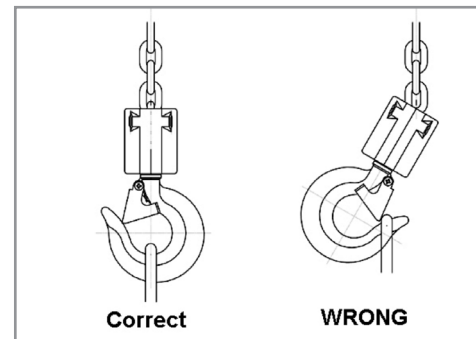

Figure 10
**Never load the hook in front of the safety latch.** See Figure 10.